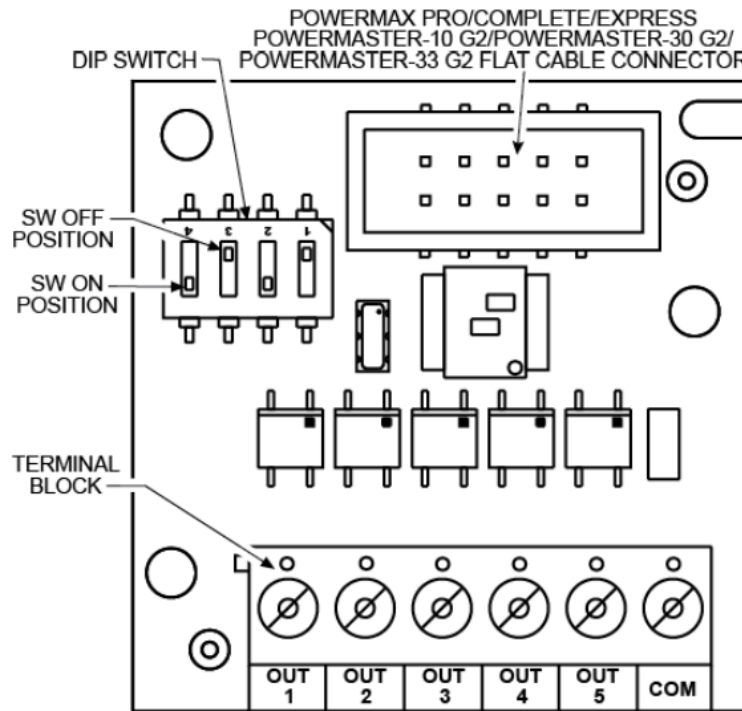

Figure 1 – PGM-5 Printed Circuit
- PGM-5 (see Figure 1) is an output interface module designed to provide alarm, trouble events and status signals to external devices such as long range wireless monitoring transmitters, CCTV systems, home-automation systems, LED annunciation panels, etc. The PGM-5 provides 5 solid state relay contact outputs and is designed to be used as a plug-in internal add-on module with PowerMax Pro, PowerMaxComplete,